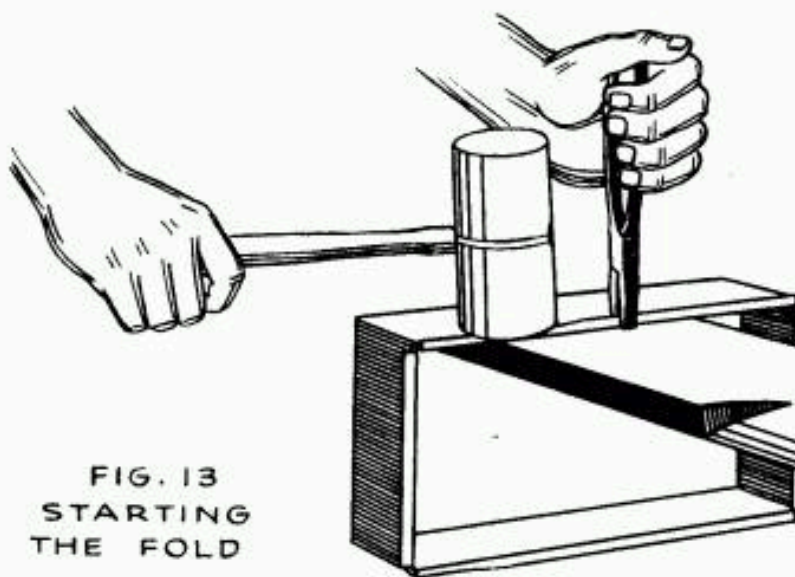

FIG. 13
10. Start the fold over the wire at each corner using the mallet and pliers. (Fig. 13).